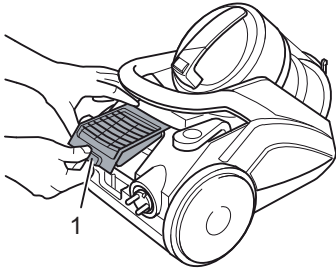

Fig. 32
2. Release the exhaust filter cover by the recessed handle provided for this purpose (Fig. 32/1) and remove it.